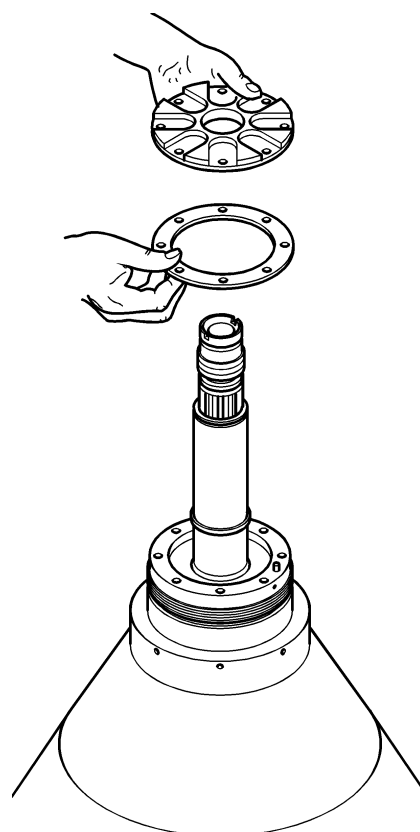

Figure 6.24
- 20) Apply the **drilled gasket of dividing disk** on the bowl hood (fig. 6.24) checking that the pin on the bowl hood correctly enter in the suitable hole on the gasket.
- 21) Apply the **dividing disk** (fig. 6.24) aligning the “0” with the “0” of the bowl hood.